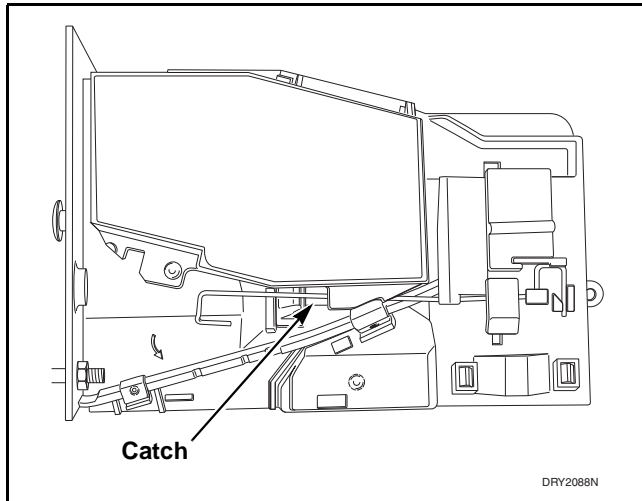

Figure 62
- Move spring downward until cover catch is free. Refer to *Figure 62*.